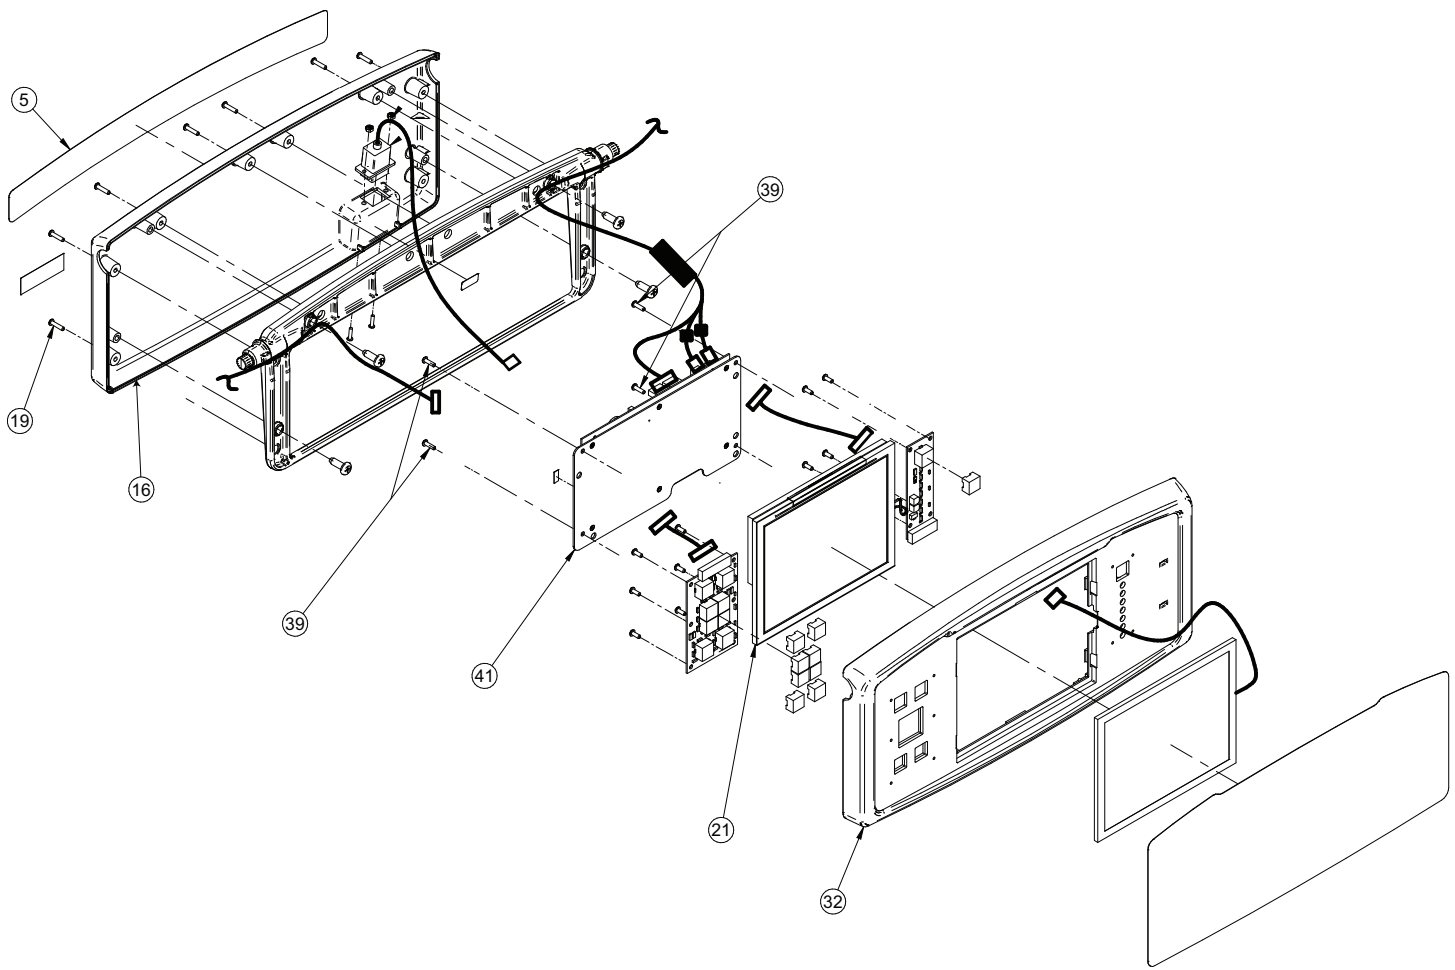

Figure 62 – Footboard assembly
3. Using a small slotted screwdriver, remove the fascia back foot control label (5) (Figure 62).
4. Using a #2 Phillips screwdriver, remove the six screws (19) that secure the front nurse panel (32) to the rear footboard control (16) (Figure 62). Save the screws.
6. Using a #2 Phillips short screwdriver, remove the two screws (19) from the bottom of the front nurse panel (32) (Figure 62). Save the screws.
17. Using a #2 Phillips screwdriver, remove the four screws (39) that secure the touch board assembly (41) to the display housing (Figure 62). Save the screws.
19. Using a small slotted screwdriver, separate the locking tabs from the LCD display (21). Remove and discard the display.